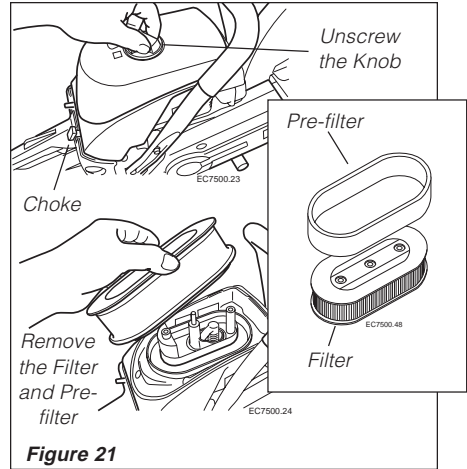

Figure 21
**Clean the air filter once a day and replace the filter every 20 hours of operation** according to the following procedures. See Figure 21.